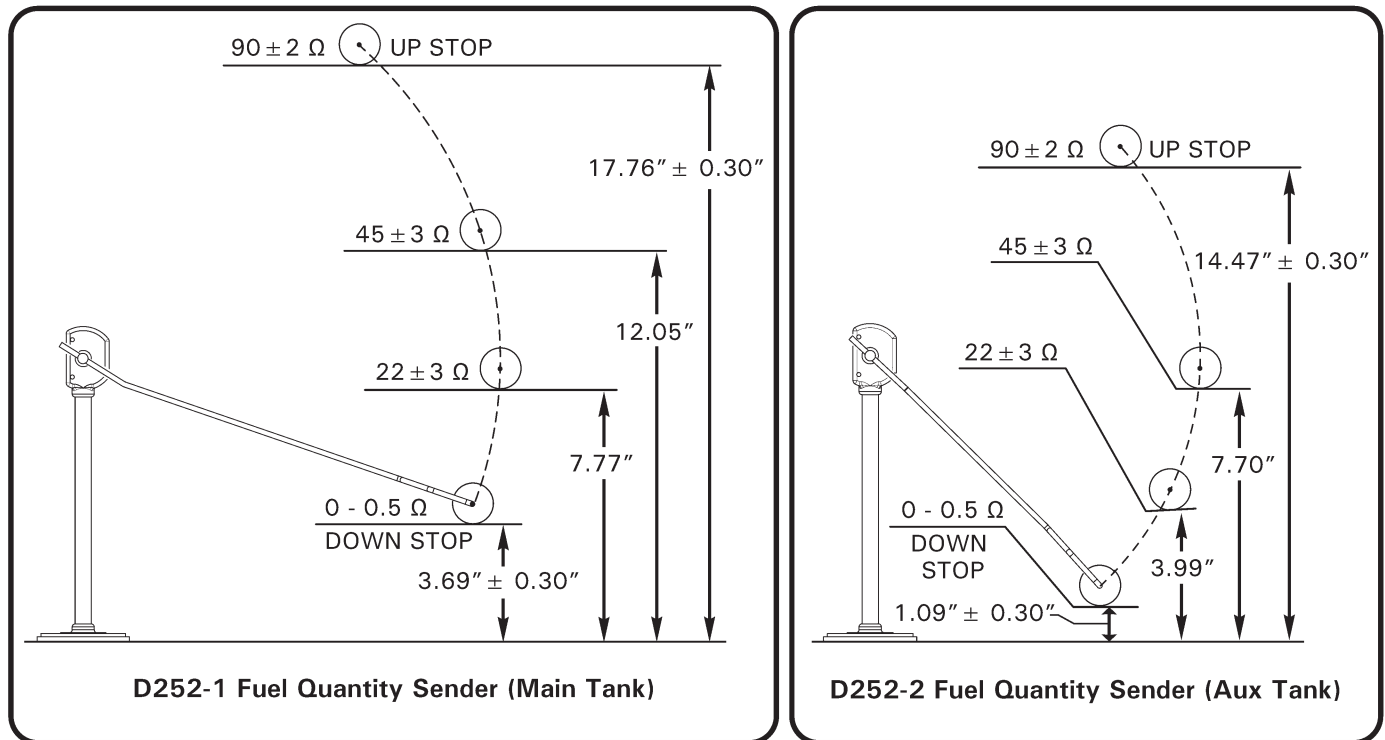

FIGURE 12-5 FUEL QUANTITY SENDER CHECK
2. Simulate mounting position of appropriate sender per Figure 12-5. Position float arm as shown and measure the resistance with a multimeter. Verify resistance is within tolerance at four noted heights.